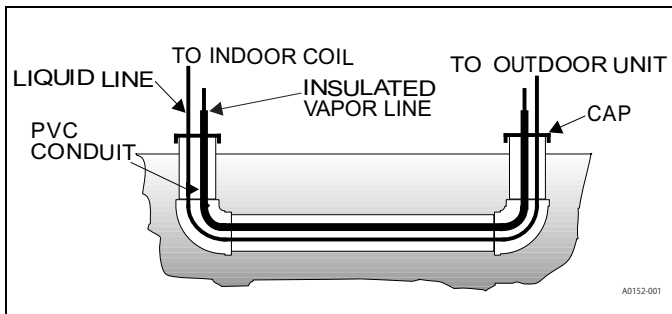

FIGURE 3: Underground Installation
6. Use PVC piping as a conduit for all underground installations as shown in Figure 3. Buried lines should be kept as short as possible to minimize the build up of liquid refrigerant in the vapor line during